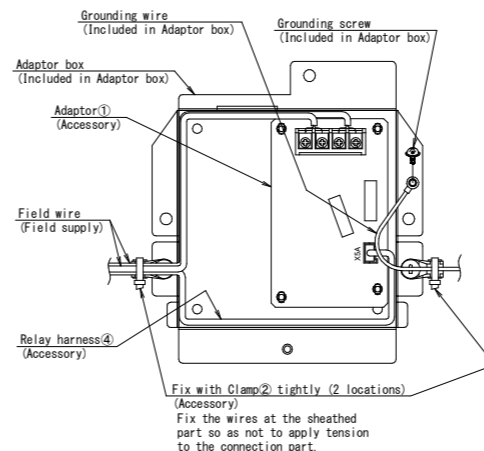

Figure 2
- (3) Handle the grounding wire attached to the Adaptor box, the Relay harness④ and the field wires as shown in Figure 2. Connect the grounding wire with the grounding screw (attached to the Adaptor box). (Figure 2)
- (4) Fix the wires connected in (3) with the Clamps② to the Adaptor box cover tightly.
- Cut an extra of the Clamp② at the root.